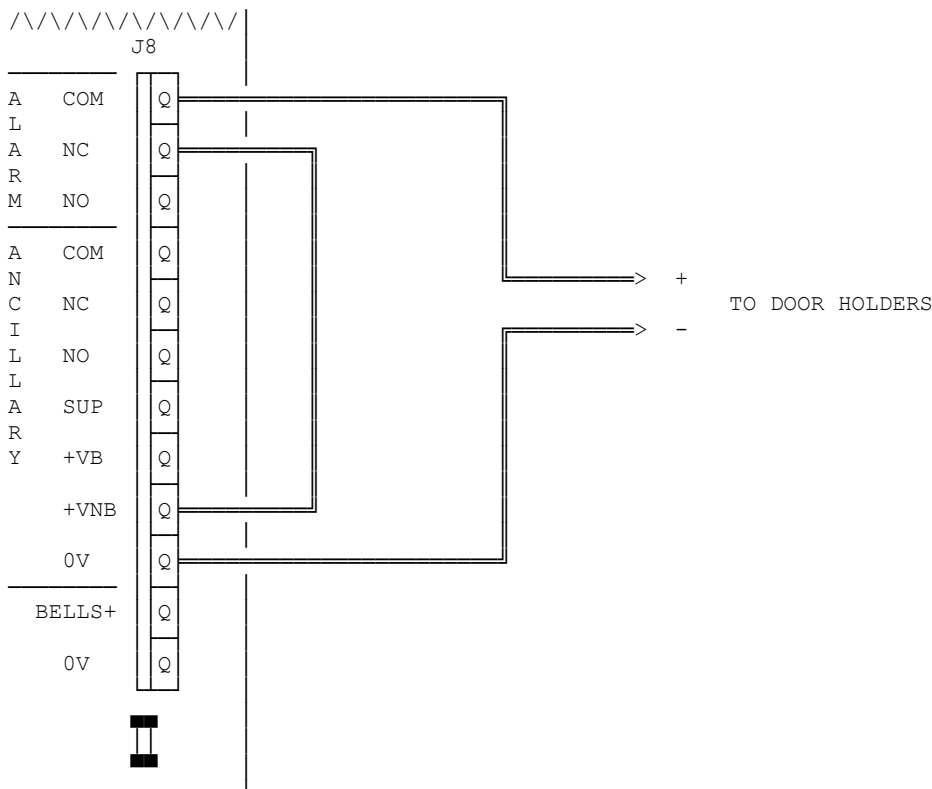

Figure 2.16
- 7) Figure 2.16 shows an example of Door Holder wiring. Note the normally closed contact of the relay is used so that the door holders are de-energised on alarm.